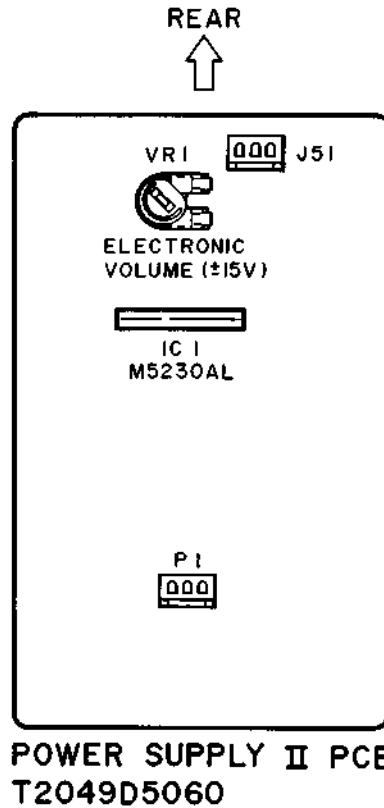

Fig. 7-6 Power Supply II PCB Adjustment Points
- d. Adjust VR1 (POWER SUPPLY II PCB Refer to Fig. 7-6) so that LINE OUT LEVEL will be -11.5 ± 0.2 dBm.